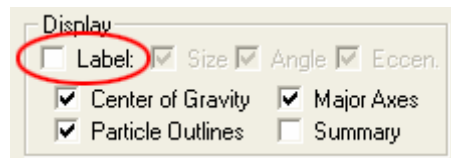

Figure 6:
16. Click the Label field, located in the Display frame, to uncheck it as shown below in Figure 6.